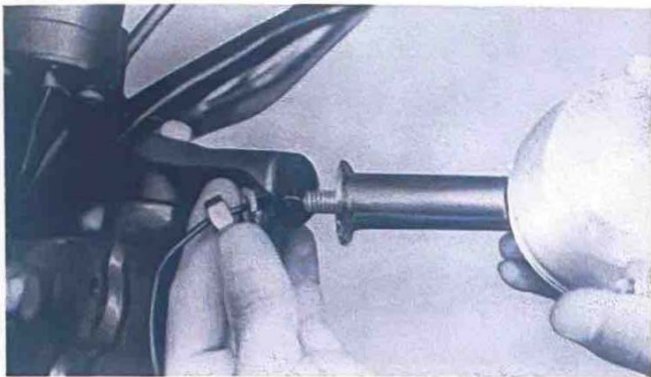

Fig. 28
- (1) Install the flasher light to the flasher light bracket with 8 mm nuts and spring washers. (Fig. 28)